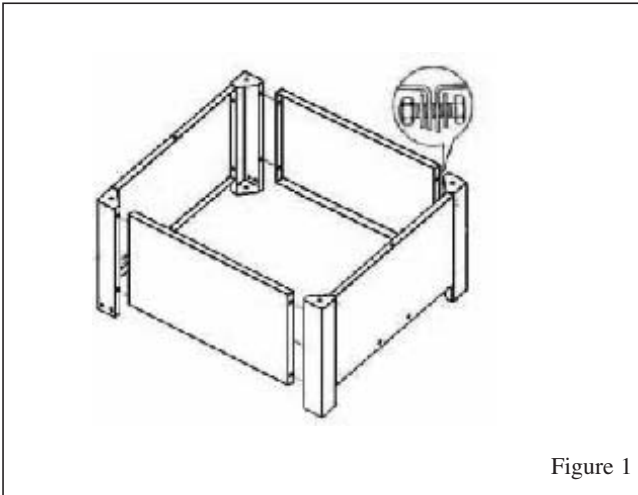

Figure 1
3. Assemble the work stand as shown in Figure 1.